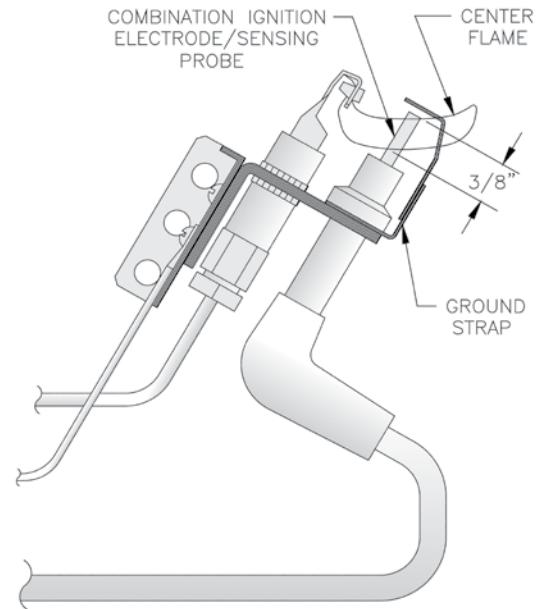

Figure 14: Pilot Burner Flame, Intermittent Ignition
1. Intermittent Ignition (EI). See Figure 14. Pilot produces three (3) flames. Center flame should be steady, medium hard blue enveloping $3/8$ to $1/2$ inch of sensing probe.